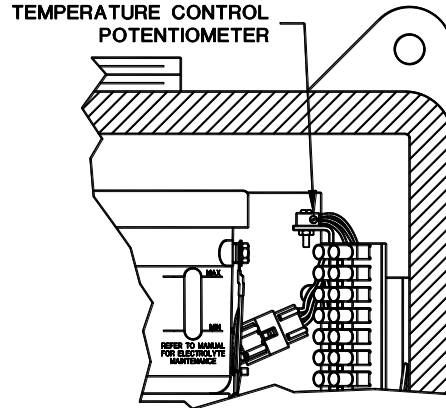

Figure 28: Temperature Control in R7 Enclosure
- 4) Locate the temperature control potentiometer on the circuit board in the enclosure above the terminal strip. See Figure 28. Turn it clockwise to increase the temperature and counter-clockwise to decrease it. After each adjustment re-cover the enclosure and allow at least an hour for it to stabilize at the new temperature.